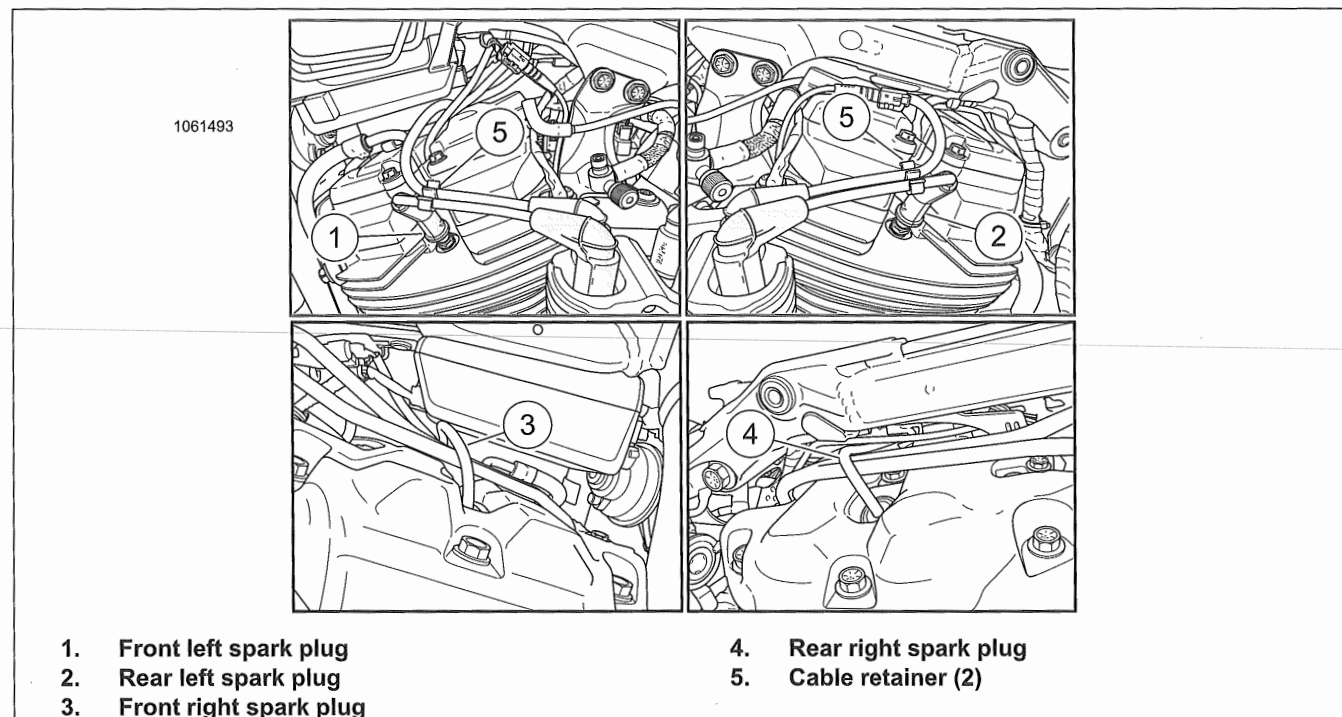

Figure 7-12. Spark Plug Cable Routing: (Fuel tank removed for clarity)
4. See Figure 7-12. Install cables retainers (5).